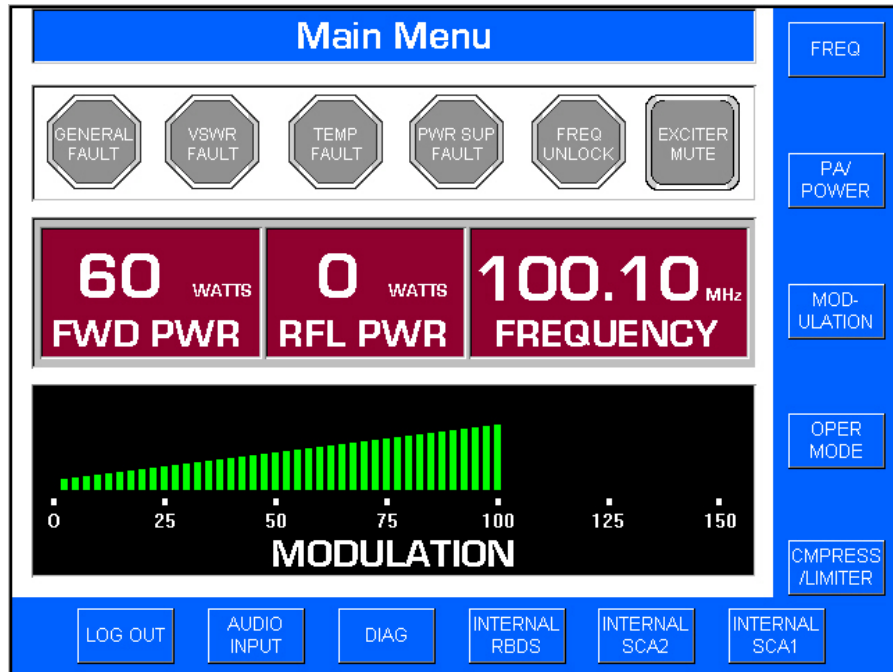

Figure 3-2. FXi MAIN MENU
- B. The main menu will appear (refer to Figure 3-2).
Refer to Figure 3-2. The FXi exciter is equipped with an intuitive graphical interface. The interface consists of several menus which allow the user to enter FXi programming data and view the status of the operating parameters. The following text presents information on each primary menu in the user interface.
Table 3-2 presents a description of the Main Menu displays. Refer to Figure 3-2 and Table 3-2 for information on the Main Menu.